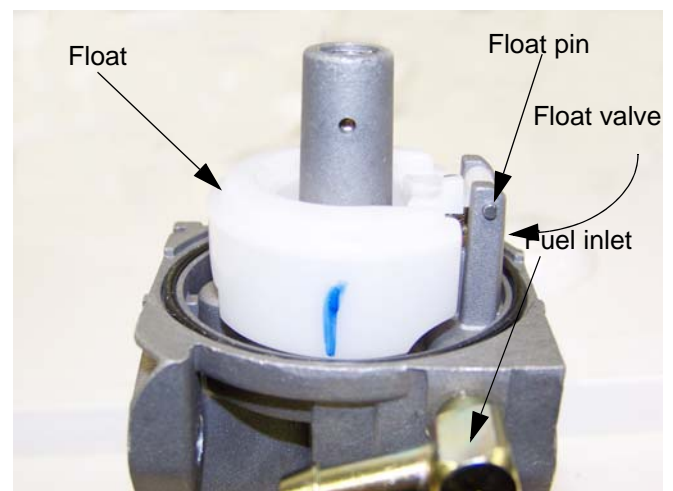

Figure 4.16
4. When inverted, the float should rest in a level position. See Figure 4.16.